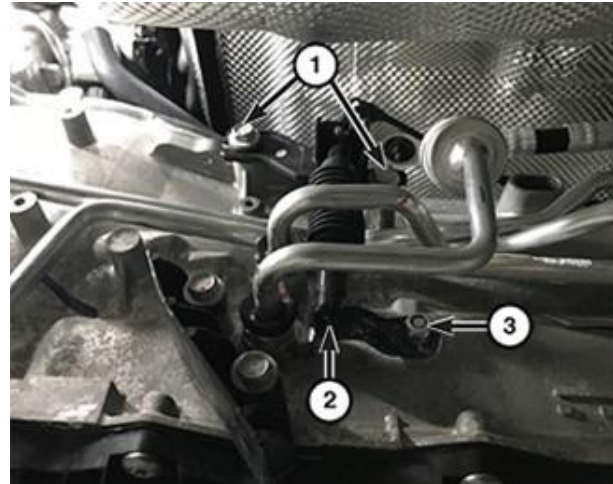

Figure 43 – Manual Park Release
55. Disconnect the Manual Park Release (MPR) cable (2) from the MPR lever (3) (Figure 43).
56. Remove the bolts (1) from the MPR cable bracket (2) then position the MPR cable with bracket aside (Figure 43).
80. Install the MPR cable and bracket assembly to the transmission. Install the bolts and tighten to 20 N·m (15 Ft. Lbs.) (Figure 43).
81. Connect the Manual Park Release (MPR) cable (2) to the MPR lever (3) (Figure 43).